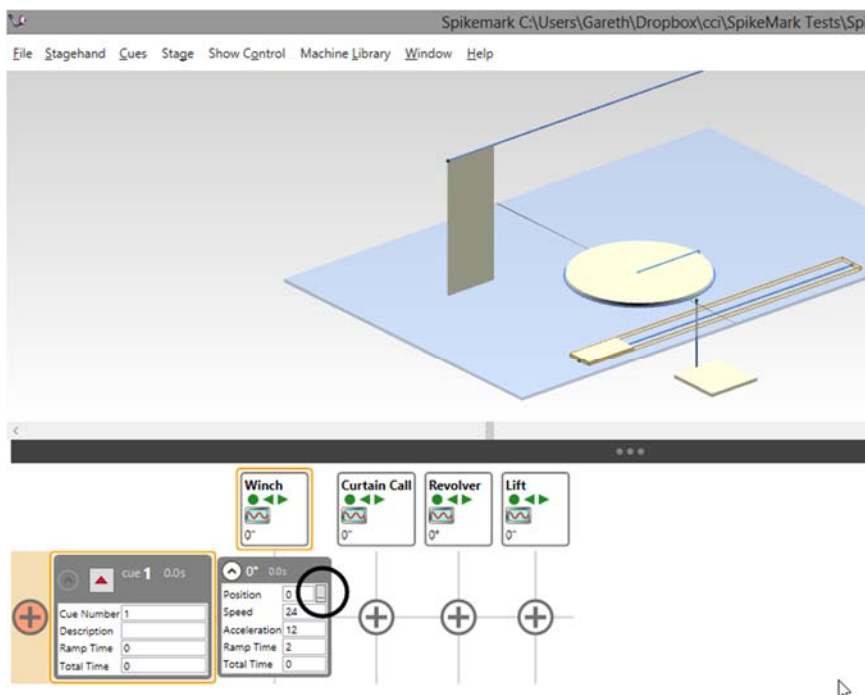

Figure 307
7. Click on the **Spike Position** button in the motor's movement window (Figure 307).